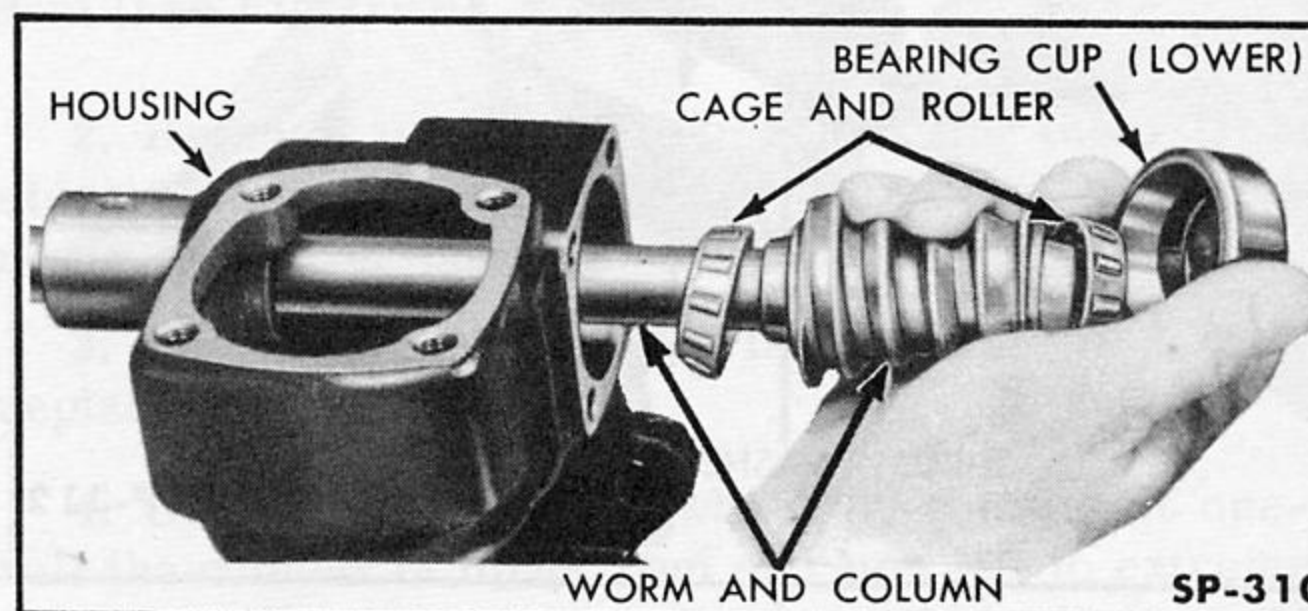

Fig. 199—Removing Steering Column and Worm
5. Remove lower worm bearing cup, lower bearing, the worm and steering column assembly, and upper bearing (Fig. 199). The lower bearing cup can be loosened, if necessary, by tapping lightly on end of the steering column with a soft hammer.